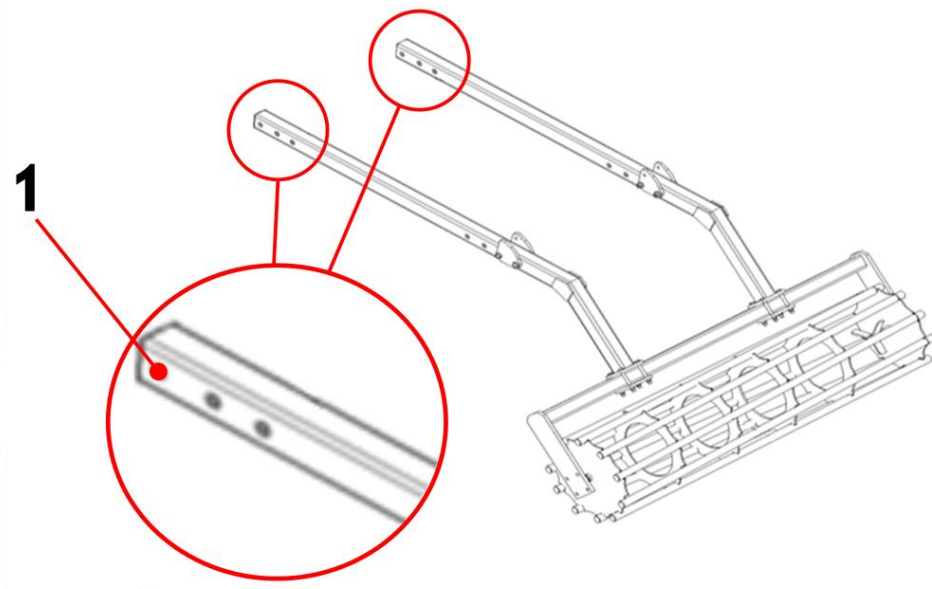

Figure 7 Arm mounting holes (1 - mounting hole - see **NOTE!**)
NOTE! On a machine fitted with a disc beam with rubber-covered handles, mount the arms on the first available hole (Fig. 7 item 1). The distance between the discs and the operating roller is then maintained.